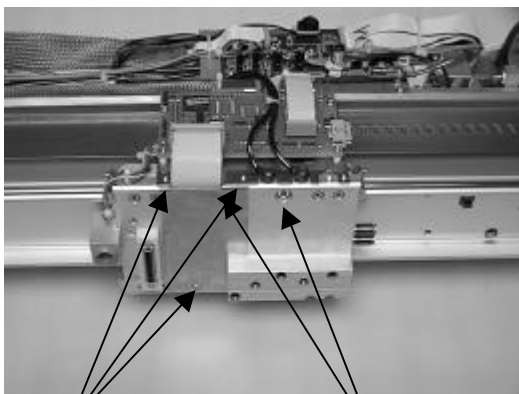

Fig. 2
4. Remove screws (Fig. 2/1), withdraw cable cover and loosen the 2 screws of the band support (Fig. 2/2).